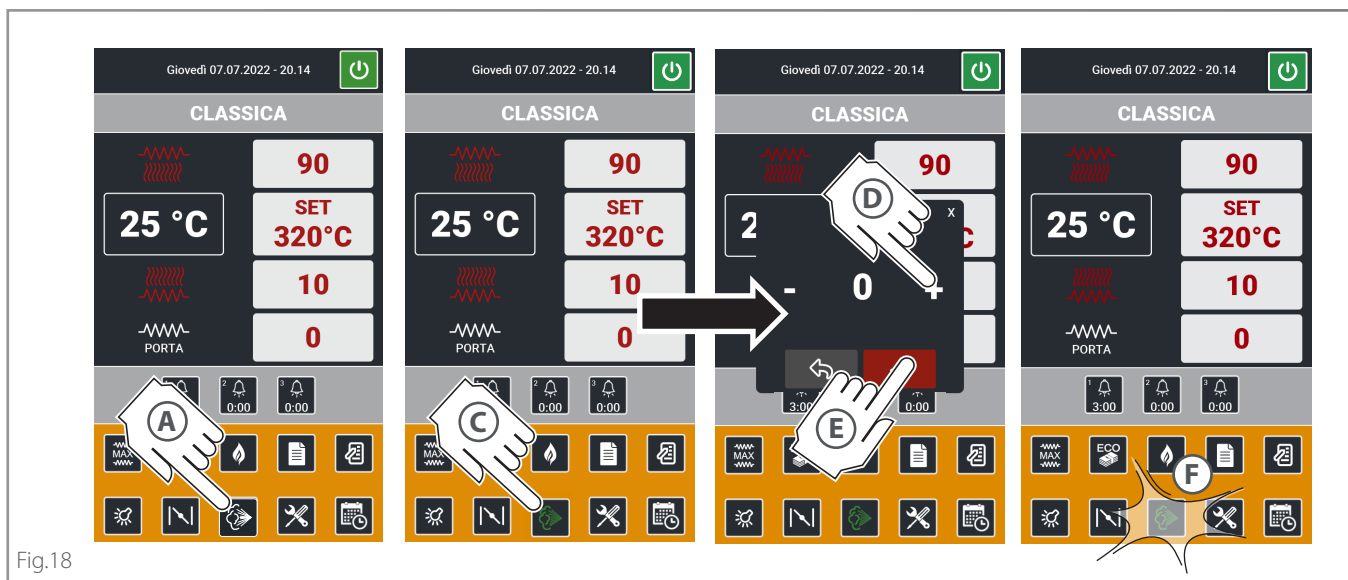

Fig.18
► **Fig.18** - to add steam during a cooking cycle:
- (A)** Touch the “STEAMER” icon which, from white, will turn red.
- (B)** Wait for the steamer to warm up, until the icon turns green
- (C)** Press the icon again.
- (D)** A keypad is displayed that you can use to enter how long steam must be dispensed for (e.g. 10 seconds).
- (E)** Confirm with “OK”: the icon starts flashing.
- (F)** Steam delivery starts in the chamber for the set time (e.g. 10 seconds).